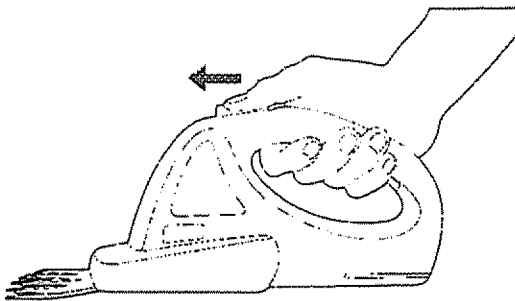

Figure 1.
1. To turn tool ON slide the safety switch on top of the handle FORWARD with your thumb. Hold it FORWARD momentarily, while squeezing the trigger switch (located under the handle). See Figure 1.